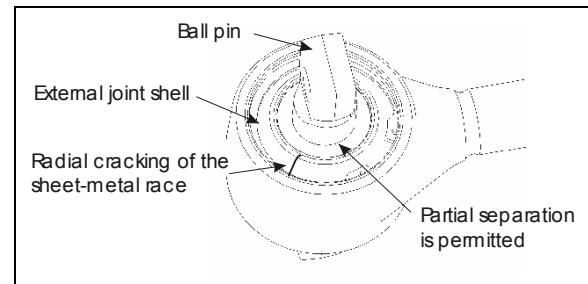

FIGURE 6: BALL PIN BUSHING
- Radial cracking of the external sheet-metal race (fig. 6)